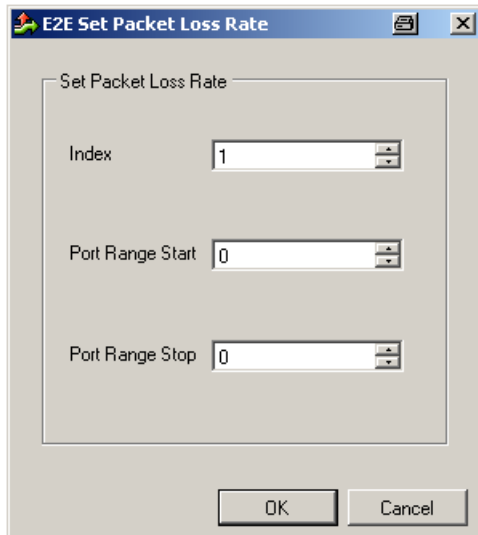

Fig. 6-18: E2E Set Packet Loss Rate
- **POLQA CALIBRATION MACRO** – Select **USER DEFINE** only if custom calibration macro is used. The **MACRO SETTINGS** can be edited by clicking the **SETTINGS...** button (see Fig. 6-18).